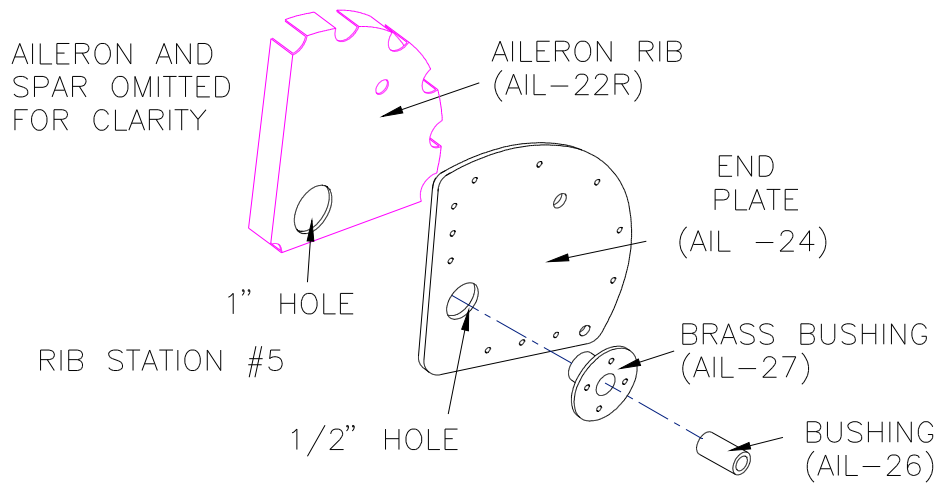

Figure 7.4.6
20) Fit the End Plate, brass bushing and the AIL-26 bushing to the center hinge leading edge rib. The hinge backing plate will find its own center. Figure 7.4.6.